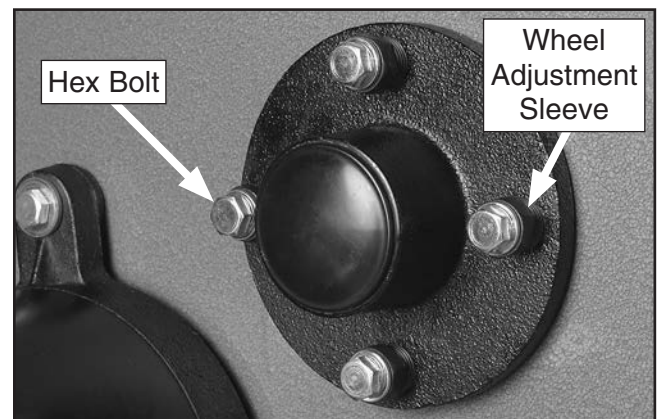

Figure 54. Wheel adjustment hub.
2. Loosen the four hex bolts on the lower wheel adjustment hub (see **Figure 54**). These secure the wheel adjustment sleeves.